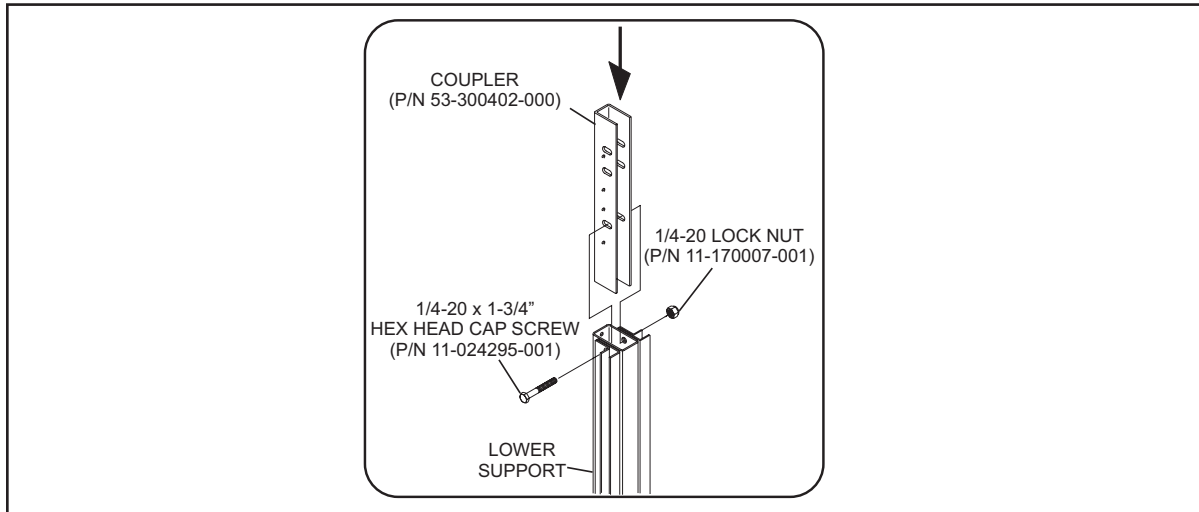

Figure 13
3. Install the coupler in the lower support. Refer to *Figure 13*.